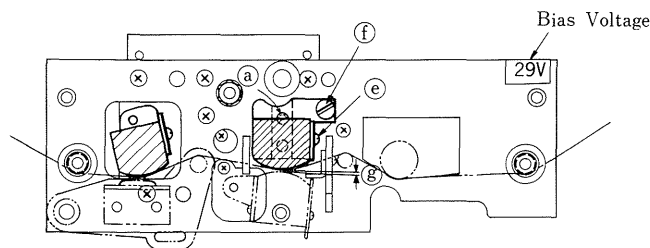

Fig. 1
1. HEIGHT ADJUSTMENT (Fig. 1)
Adjust Recording and Playback Head Height so that the upper edge of the left channel core is parallel with the upper edge of the tape, by turning the 2 set screws, as shown in Fig. 1 (a).
Adjust Erase and Bias Head Height so that the upper edge of the upper Erase Head's core is 0.125 mm higher than the upper edge of the tape, by loosening screw (b), and adjusting the cam up or down as shown in Fig. 1. Bias Head Height Adjustment is automatically completed with Erase Head Adjustment.